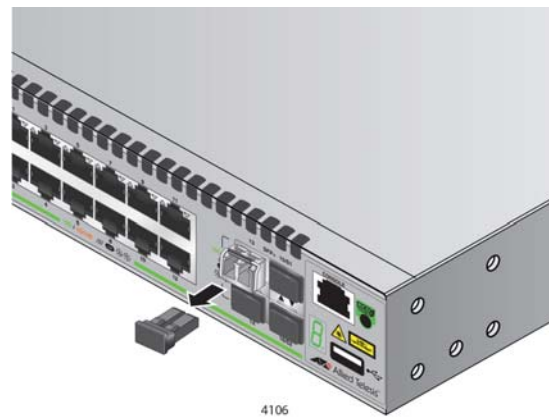

Figure 69. Removing the Dust Cover from an SFP Transceiver
5. Remove the dust cover from the transceiver. Refer to Figure 69.